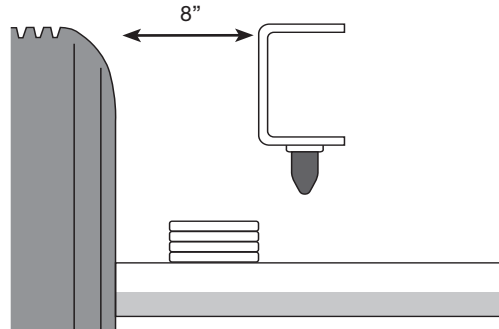

Fig. 2
1. There must be 8" clearance between the frame and the rear tire for this kit to fit (Fig. 2). Confirm clearance before proceeding.
2. Support the vehicle with safety stands, remove the wheels and raise or lower to obtain normal ride height (Figs. 2 & 3).